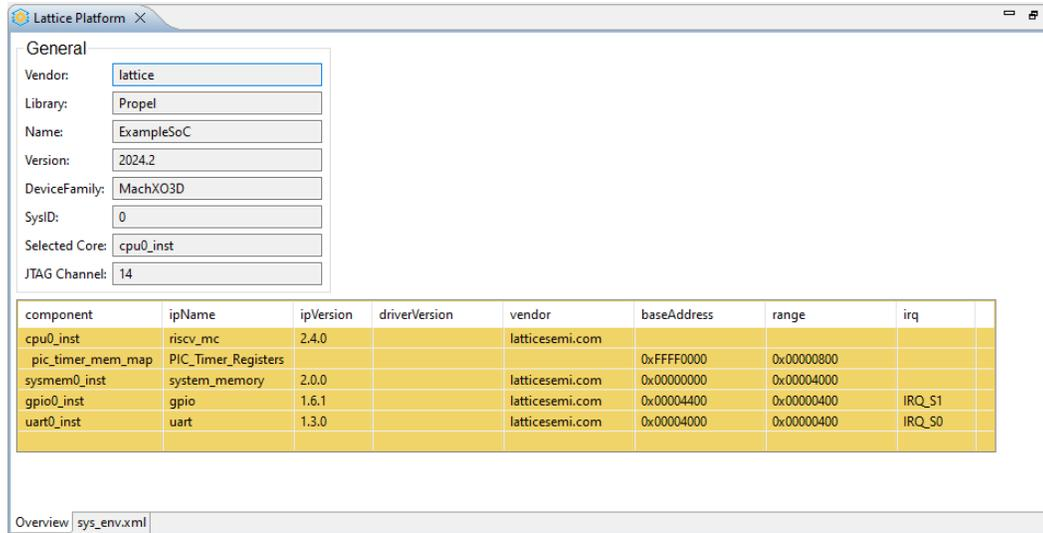

Figure 3.31. Lattice System Platform
- Lattice System Platform: An overview of the processor platform can be displayed (Figure 3.31).